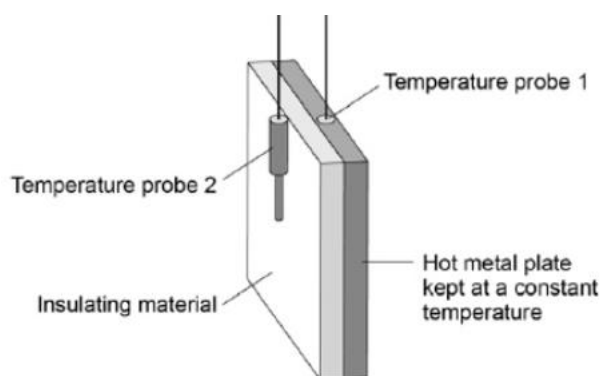

Fig. 6.1
6. A student investigated the properties of three types of insulation. Fig. 6.1 shows the apparatus the student used. In the investigation, different insulating materials were placed in contact with the hot metal plate. Temperature probes measured the temperature on each side of the material. The temperature probes were connected to a data logger.